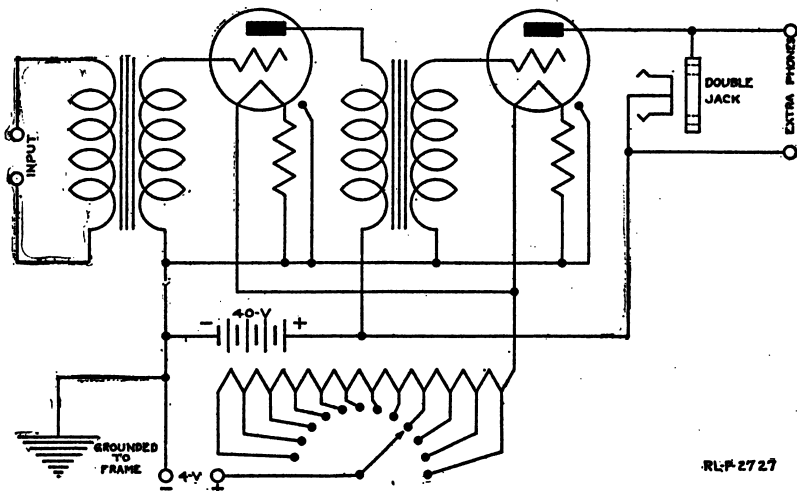

Fig. 66.—Schematic diagram of connections in the BC-44-A amplifier.
3. Examine the wiring of the set and compare it with the wiring diagram shown in Fig. 66. Note that the same "B" battery is used for both plate circuits